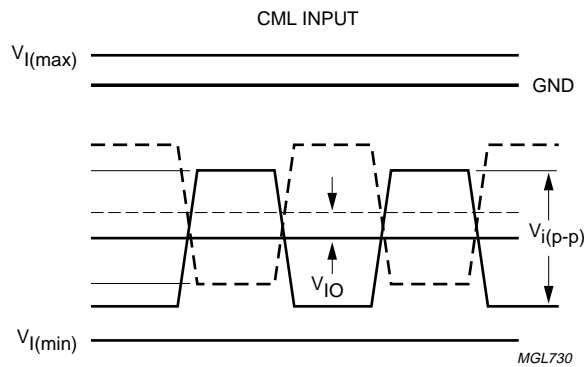

Fig.10 Logic level symbol definitions for CML inputs.
3. See Fig.10 for CML symbol definitions. All CML inputs are terminated internally using 50  $\Omega$  on-chip resistors to ground.